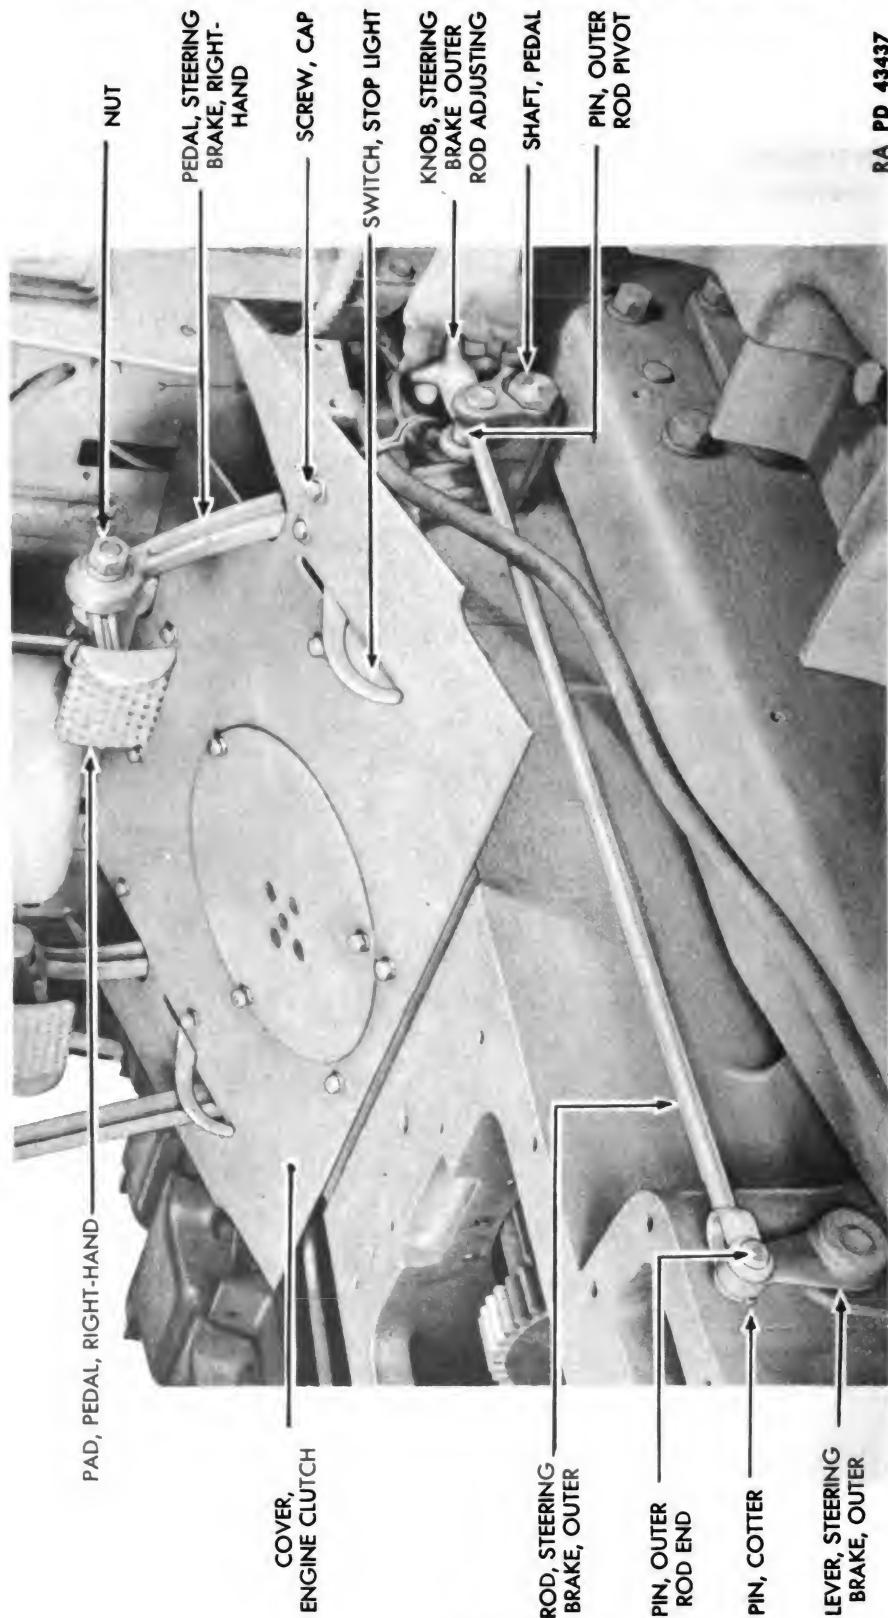

Figure 113 – Steering Brake Outer Rod Adjusting Knob Removal
(2) REMOVE STEERING BRAKE OUTER ROD ADJUSTING KNOB (fig. 113).
(3) REMOVE OUTER STEERING BRAKE ROD (fig. 113).
(4) REMOVE RIGHT STEERING BRAKE PEDAL (fig. 113).